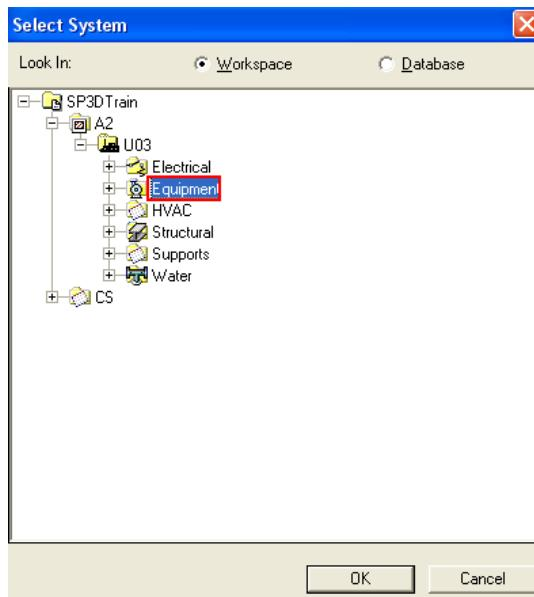

Figure 42: The Select System Dialog Box
8. The **Select System** dialog box opens. In the dialog box expand **A2 > U03 > Equipment** to select the required system and click **OK**, as shown in Figure 42.